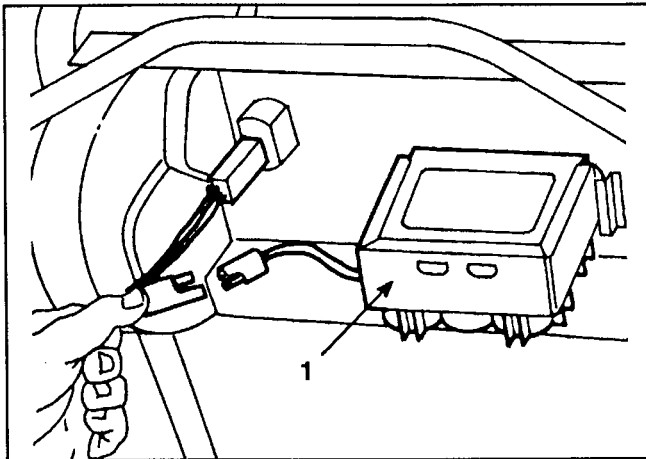

Figure 29
1. Stop engine and disconnect wire harness from battery terminal (Fig. 29).